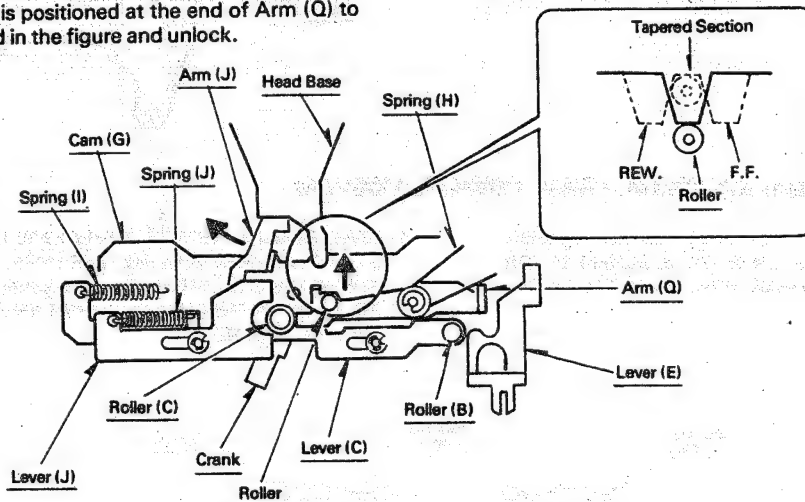

Fig. 20
3. With Cam (G) moving right or left, Arm (Q), through the pressure of Spring (H), is pushed toward the upper side in the figure to strike the bottom of the tapered section of Cam (G) and is locked.
4. With Crank returned to center position, the Roller of Arm (Q) rolls over the tapered section to unlock Arm (Q) (Fig. 20).
5. With this, Levers (C) and (J), under pressure of Spring (I), are returned to their normal positions and strike the protrusion of Crank so that their center position is maintained. Roller (C) is positioned at the end of Arm (Q) to force it downward in the figure and unlock.
6. Shifting of Crank during PLAY causes the protrusion of Lever (C) to push Arm (J), so that the Head Base is unlocked.
7. Also, with Eject Lever (E) pushed, Lever (C), through Roller (B), moves left to unlock the Head Base.
8. At the end of F.F./REWIND, the sensing mechanism is activated and advances the Head Base, with the result Arm (Q) is pushed toward the lower side in the figure by the end of the Head Base to bring F.F./REWIND to a stop (Fig. 20).